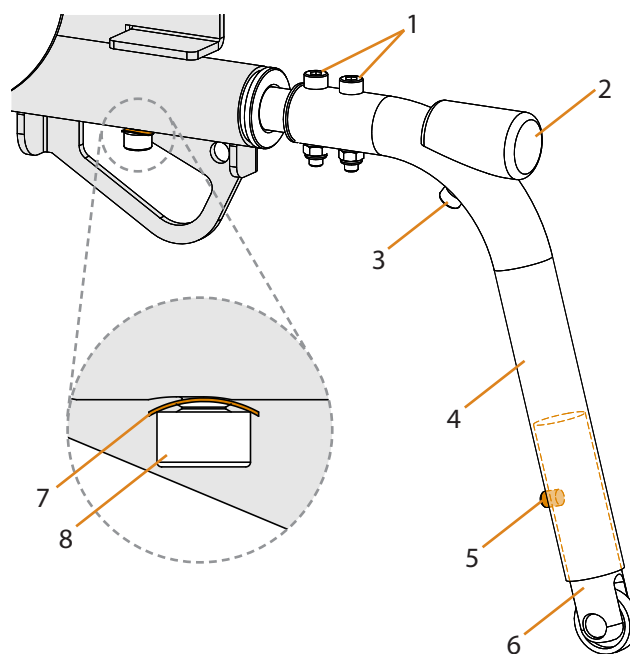

Figure 12. Tip protector
HD Motion is equipped with tip protectors, see Figure 12. The tip protectors are fixed in place and cannot be removed without tools. By pushing inward with a foot or hand the tip protector can be turned up to an inactive position. The attachment for the wheel (6) can be adjusted to different positions with a snap lock (5) to give the desired tip protection. The same tip protectors are used for HD Motion 22 and HD Motion 16.